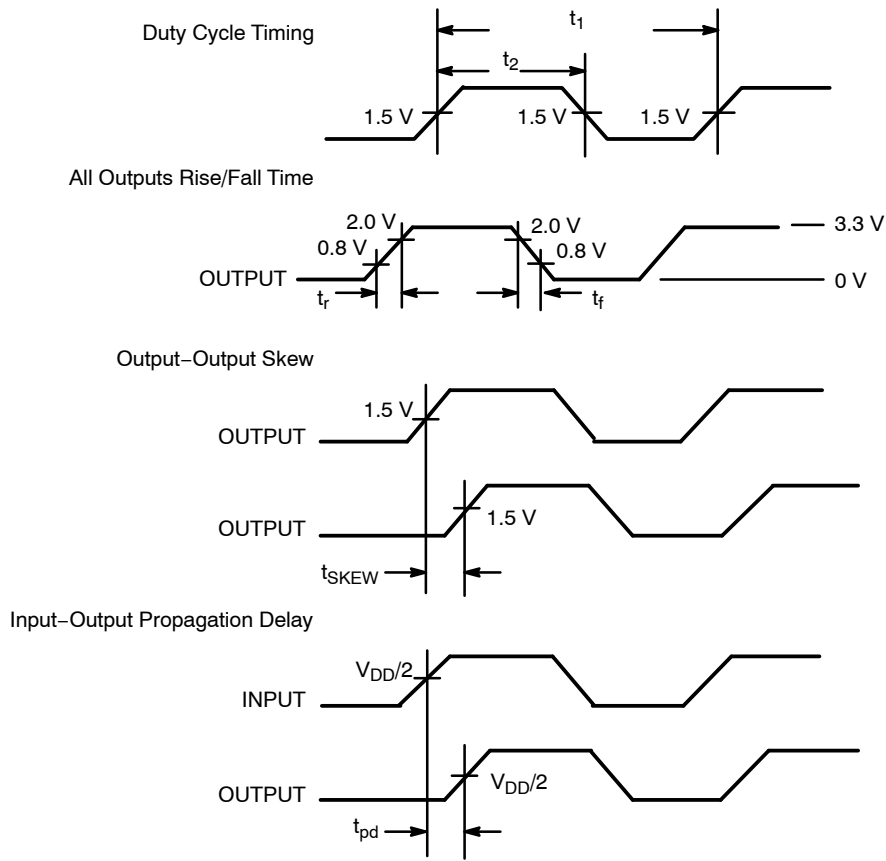

Figure 4. Switching Waveforms
**Table 6. AC CHARACTERISTICS**  $V_{DD} = 3.0\text{ V to }3.6\text{ V}$ ,  $GND = 0\text{ V}$ ,  $T_A = -40^\circ\text{C to }+85^\circ\text{C}$  (Note 4) (Figure 4)